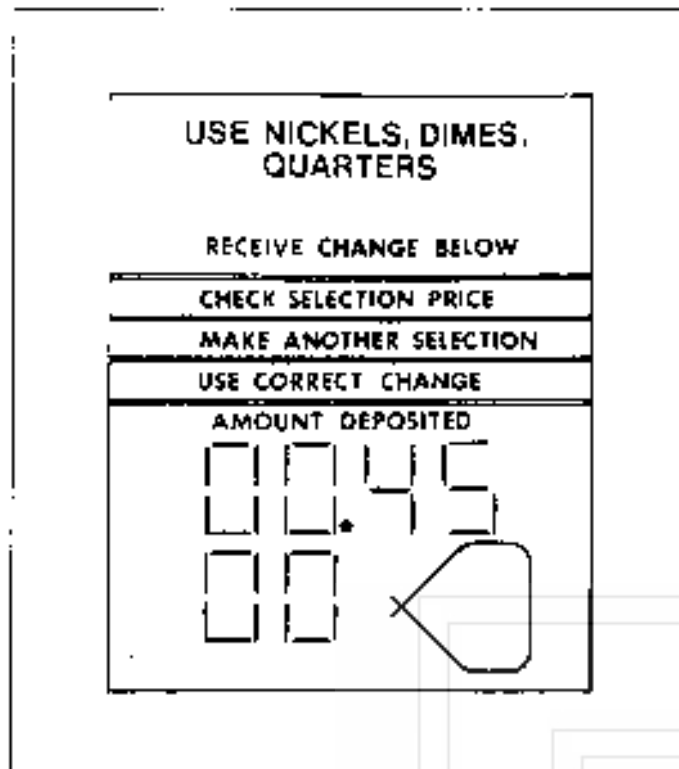

Figure 15. SHOWING A SELECTION PROGRAMMED FOR 45¢
- B. Press the letter and then the number for the first selection to be checked. The price display will show the price that selection is programmed for (Figure 15). Check the displayed price against the price tab on the shelf for that selection.
- B. Press the letter and then the number for the first selection to be checked. The display will show the price and product code that selection is programmed for (Figure 15). Check the displayed price against the price tab on the shell for that selection.